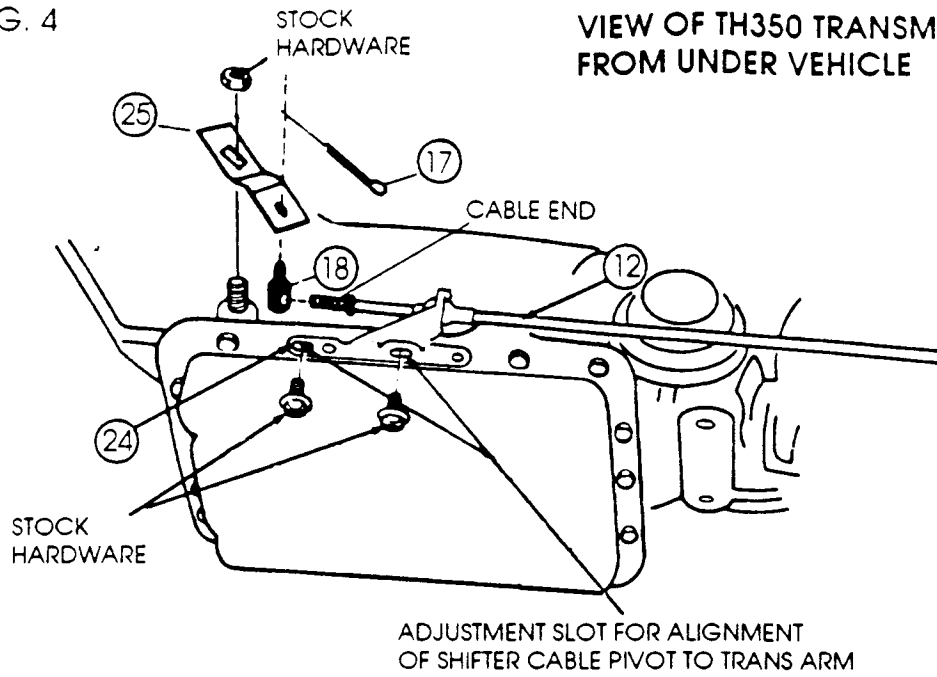

FIG. 5
2. Remove throttle lever located just above transmission arm by removing the bolt and nut, pry lever off the shaft using a flatblade screwdriver. Remove linkage and stock transmission arm. Install HURST transmission arm Pt. #105 8564 (Item #27) using the 1/4" x 1-1/2" hex bolt (Item #19), 1/4" split lockwasher (Item #23), and 1/4" hex nut (Item #15) supplied. Re-install throttle lever and linkage onto shaft. Check throttle lever to be sure it operates freely. (Refer to Figure 5).
3. Two (2) transmission oil pan bolts (driver side) directly below transmission arm must be removed. Install cable bracket Pt. #117 8563 (Item #26), two (2) spacers (Item #28), and two (2) 5/16"-18 x 3/4" hex head bolts (Item #21) supplied. If transmission has a cast aluminum oil pan, spacers may not be needed.
Thread cable pivot (Item #18) onto end of shifter cable. Adjust cable pivot until it slides freely into hole in transmission arm. When properly adjusted, lock cable pivot in place using 3/16" hex nut. Insert cable pivot into transmission arm so pivot end is facing outward away from transmission. (Refer to Figure 5). Temporarily install cotter pin (Item #17).